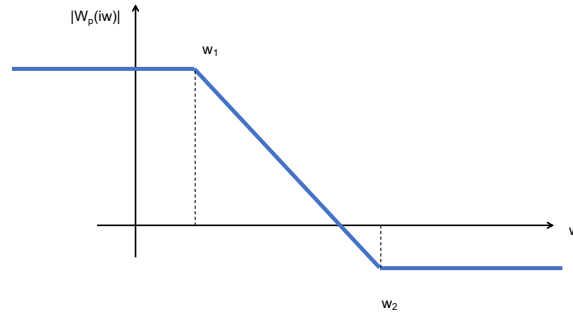

Figure 5: Shape for tracking performance weight W_p in frequency domain.
- In order to weight tracking error $(y - W_r r)$, a block-diagonal weighting is proposed (see the Bode diagram of the weight in Figure 5) such as